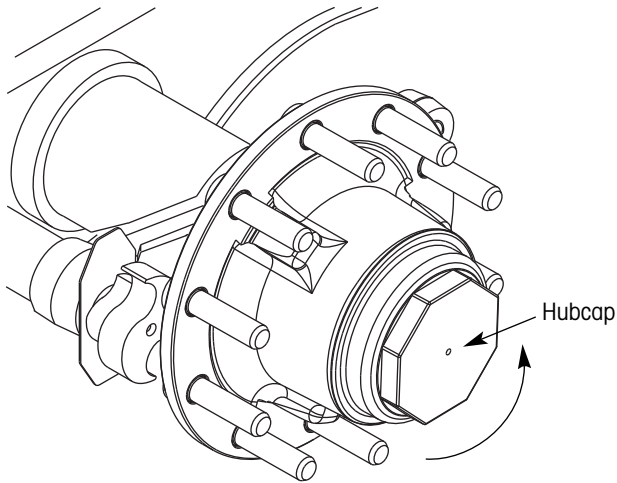

Figure 8. Removing the hubcap
4. Remove the hubcap by rotating it counterclockwise (figure 8).